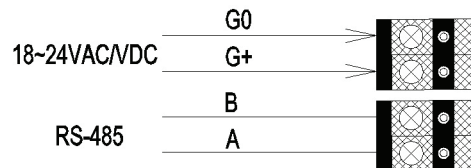

Fig. 9.
5. Connect the cable to the terminal block, then secure with the mounting screw. See Fig. 9, 10, and 11.